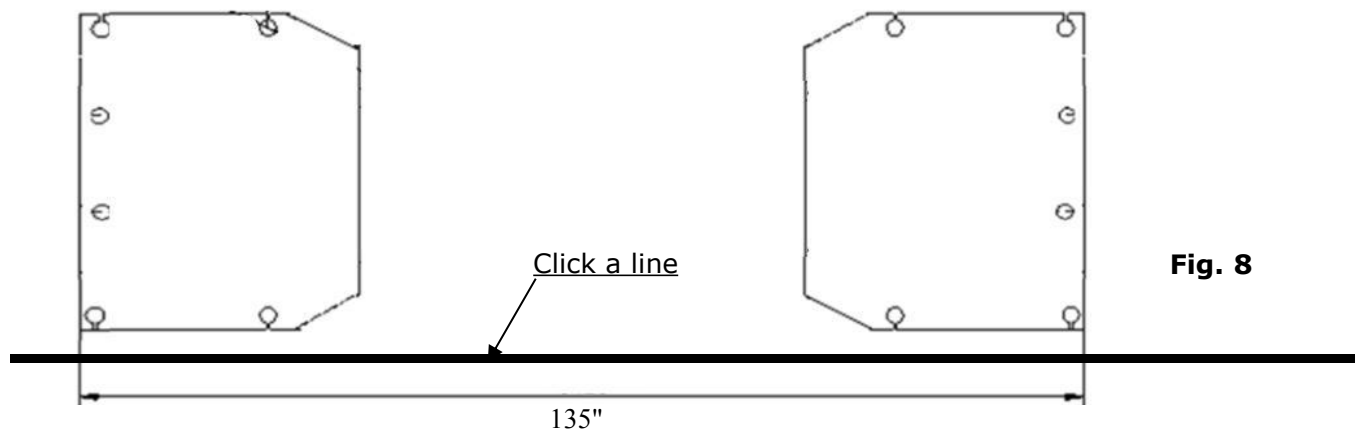

Fig. 8
B. Use a carpenter's chalk line to establish installation layout of base-plate (See Fig.8).